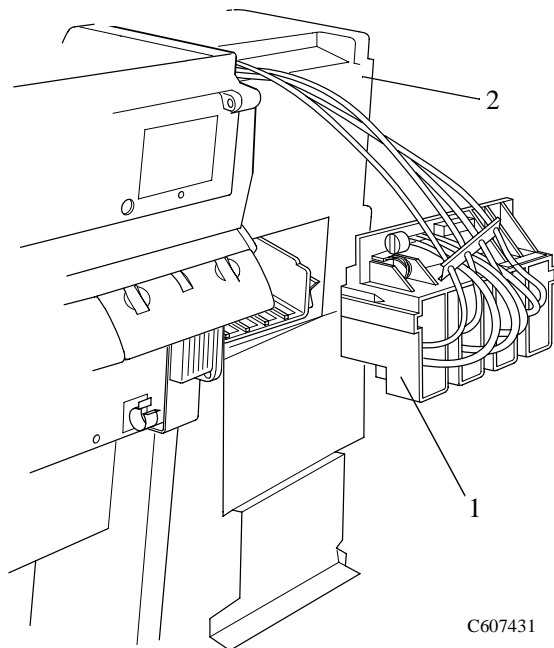

Figure 14: Ink Cartridge Tube Connector (pulled out)
7. Remove the ink cartridge tube connector (item 1) from the rear of the left hand cover (item 2) and store it safely on top of the Printer (refer to Figure 14).